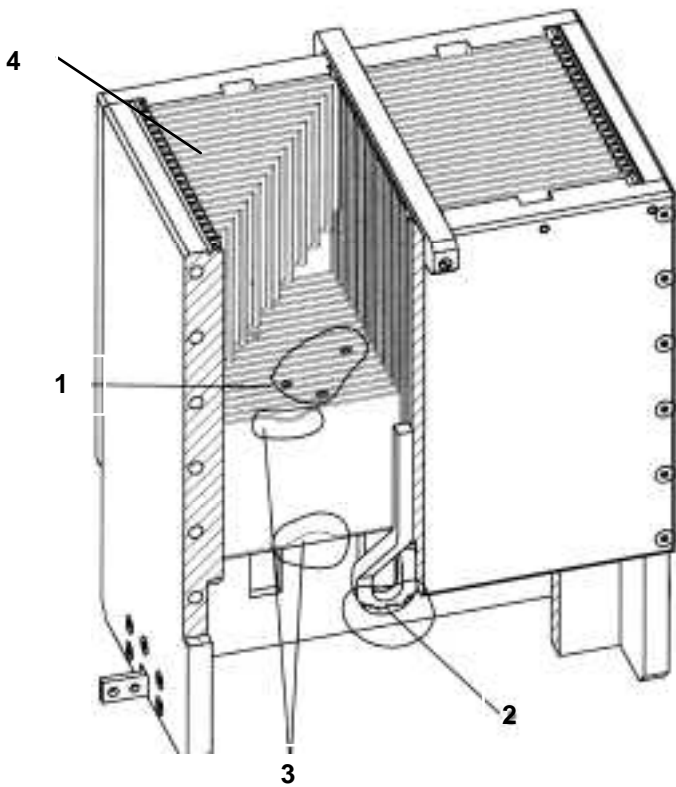

Fig. 42 Inspection of the arc chute
- [Fig. 42]. Check the arc chute's interior, as far as possible, for deposits (1). There should be no copper pearls on the metal-plates, which could partially short the plates.
- [Fig. 42]. Check the general condition of the insulation plates (4). These shall not be bent or burned. Also other insulation shall not be heavily damaged.
- [Fig. 42]. Check the arc horns (2). The cross section shall not be reduced more than ~30%.
- [Fig. 42] Check the splitting plates (3). These shall not be burned more than ~20 mm [~0,8 in].